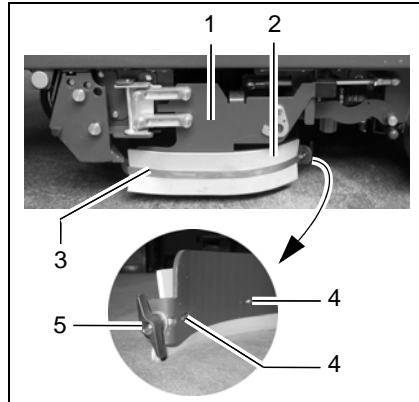

Fig. 34
The deflector (Fig. 34/1) must be fixed in its service position (refer to Section 2.3.1, Point 1).
1. Loosen the wing nut (Fig. 34/5) at the end of the deflector.
2. Slide the clamping rail (Fig. 34/3) in the vehicle's driving direction (forwards) until the clamping rail hooks (Fig. 34/4) are freed and the clamping rail (Fig. 34/3) can be removed away from the vehicle.
3. Remove the old rubber deflector strips (Fig. 34/2).
4. Position the new rubber deflector strips (Fig. 34/2) in place.
5. Mount the clamping rail (Fig. 34/3) from the outside and slide back by hand so that the clamping rail hooks (Fig. 34/4) engage.
Tighten the wing nut (Fig. 34/5) so that it engage in the thread of the clamping rail (Fig. 34/3) and tightens the clamping rail firmly (Fig. 34/3).